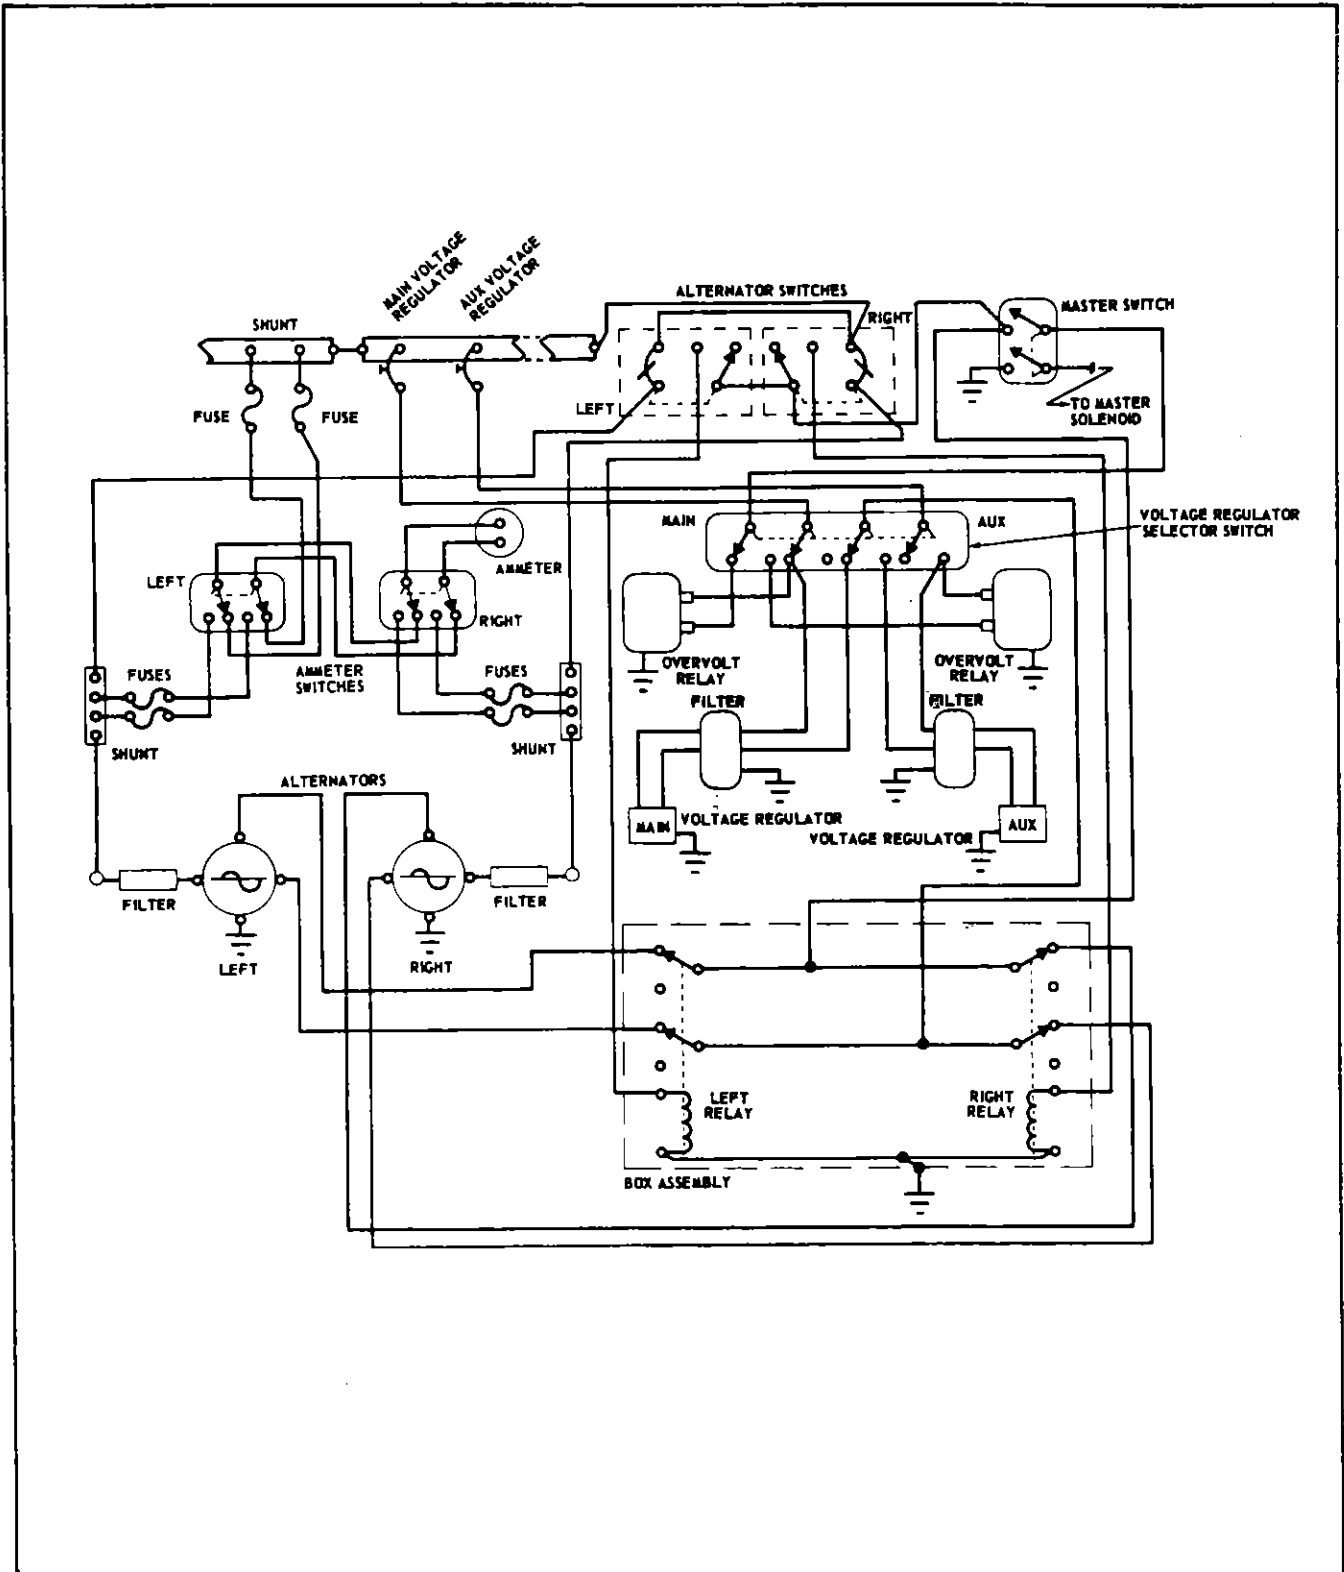

Figure 11-20. Alternator Wiring System Schematic
11-53. CHECKING ALTERNATOR SYSTEM. The ammeter is equipped with a selector switch which enables an independent output check of each alternator, as well as the electrical output-input of the battery. Should either alternator show no output on the ammeter, check the alternator output and field thermo circuit protectors, and ammeter line fuses. If a further check of the ammeter shows no output from both alternators, switch to the auxiliary voltage regulator and over-voltage relay. If switching to the auxiliary system indicates no electrical output, further check the alternator system. (Refer to Figure 11-20.)
f. To check the alternator output circuit, connect a voltmeter or 14-volt test light to the battery lead and to ground. If a reading of approximately 14-volts registers on the voltmeter or the test light lights, the battery circuit is operational. Should there be no indication of voltage, trace back through the output circuit until voltage is indicated. (Refer to Figure 11-20.) A component that allows no voltage to pass through it should be replaced.
Always refer to the wiring diagram (Refer to Figure 11-20 when installing the alternator or testing the alternator.